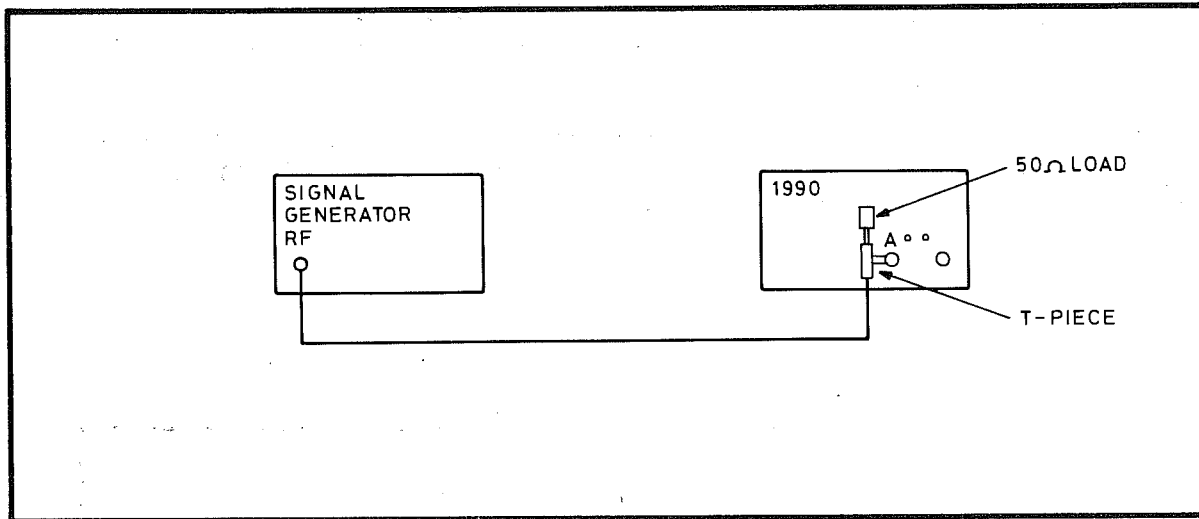

Fig 7.21 Connections for Attenuator PVP
- 58 (1) Ensure that both trigger level controls are switched to 0 V. Select 6 digits resolution on the 1990, and connect the test equipment as shown in Fig 7.21.